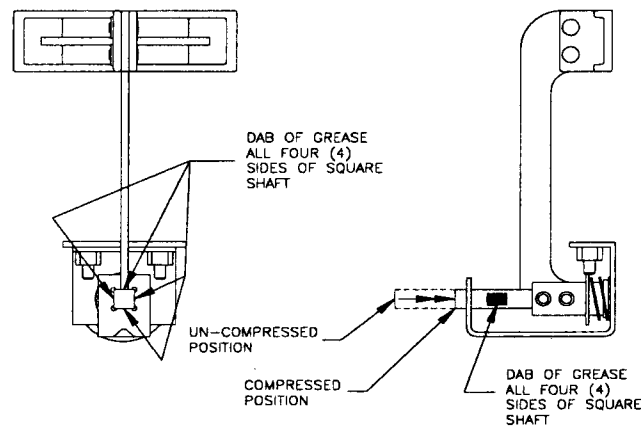

Fig. 8
- a. Periodically (every 2 to 3 months depending on usage) wipe clean the square shaft of the kicker assembly with an absorbent rag or towel, carefully removing as much grease, grime and dirt as possible. Re-apply a small amount of Teflon grease, using a cotton swab or similar applicator, to all four sides of the square shaft. Compress the kicker shaft several time to work in the grease. (See Fig. 8)